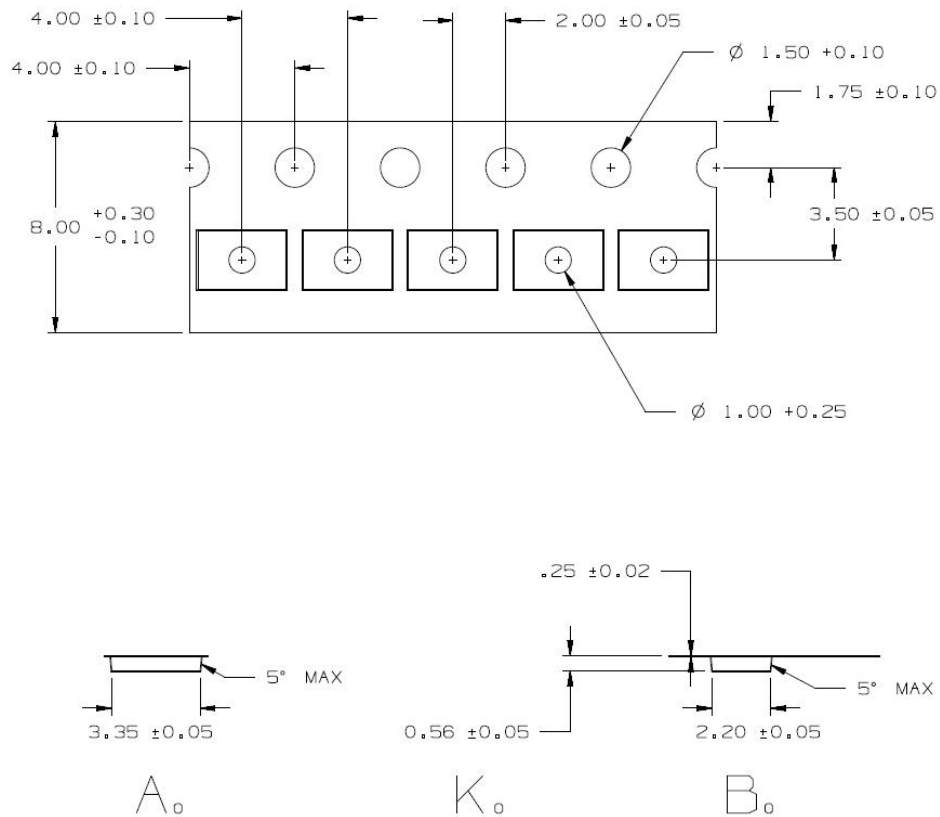

Figure 13. EA2M-SWC Tape & Reel
13. EA2M–SWC8A1G: These chips are contained in a Tape and Reel. The mechanical specifications of the trays are shown in Figure 13. Dimensions are in mm.